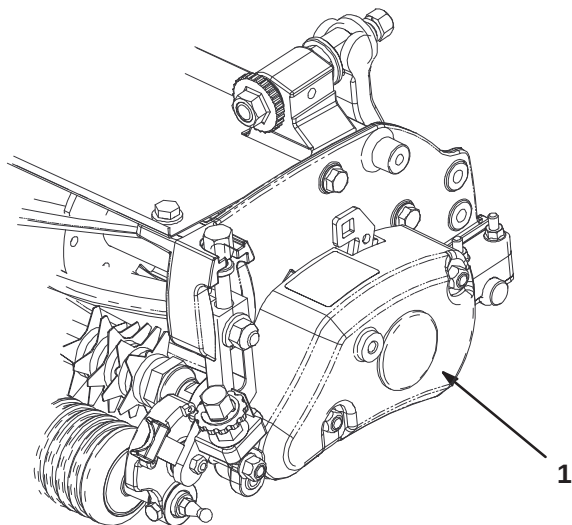

Figure 1
1. Remove belt cover from groomer housing (Fig. 1).